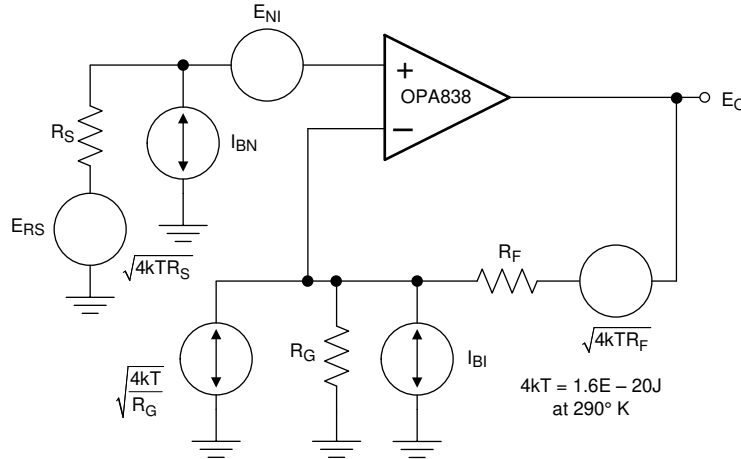
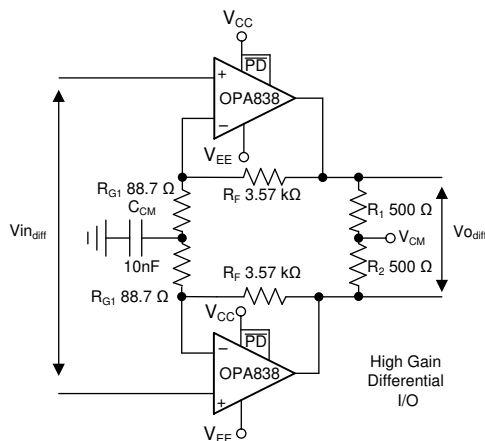
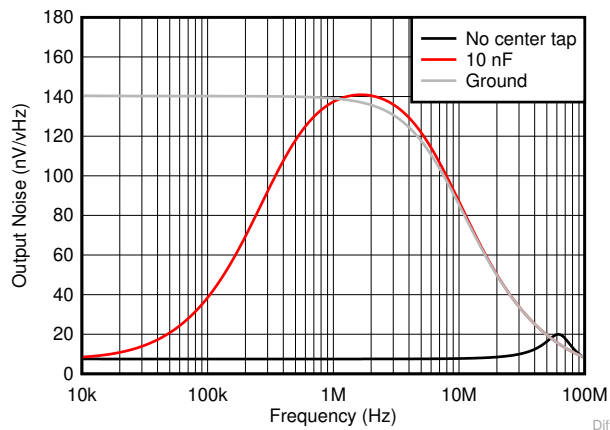

Figure 8-3. Op-Amp Noise-Analysis Model
Figure 8-4. High-Gain Differential I/O Stage
Figure 8-5. Common-Mode Output Noise for Differential I/O Design
The decompensated voltage feedback of the OPA838 op amp offers among the lowest input voltage and current noise terms for any device with a supply current less than 1 mA. Figure 8-3 shows the op amp noise analysis model that includes all noise terms. In this model, all the noise terms are shown as noise voltage or current density terms in nV/√Hz or pA/√Hz.
The total output spot noise voltage is computed as the square root of the squared contributing terms to the output noise voltage. This computation is adding all the contributing noise powers at the output by superposition, then taking the square root to return to a spot noise voltage. Equation 3 shows the general form for this output noise voltage using the terms presented in Figure 8-3.
A high-gain differential-to-differential I/O circuit can be used to drive a second-stage FDA or a differential-to-single-ended stage. This circuit is frequently used in applications where high input impedance is required (for example, if the source cannot be loaded). Figure 8-3 illustrates an example design where the differential gain is 41 V/V. An added element between the two R_G resistors increases the noise gain for the common-mode feedback. Make sure to provision for the added element; otherwise, a decompensated VFA (such as the OPA838) often oscillates. With only the R_G elements in the differential I/O design, the common-mode feedback is unity-gain and often causes high-frequency, common-mode oscillations. To resolve this issue, split the R_G
As an example design, start with the circuit in Figure 8-4.
- Assess the DC common-mode biasing on the noninverting inputs. The DC biasing must be in range and have a gain of 1 to the output. This is not illustrated in Figure 8-3.
- If a DC reference is used as the mid- R_G bias, setting the reference equal to the noninverting input bias voltage sets the output common-mode to that voltage. Using a capacitor as illustrated in Figure 8-3 accomplishes the same results.
- Set the total R_G value near the high gain values using Table 8-1. This 178- Ω total must be split for a center tap to increase the common-mode noise gain, as shown by the 88.7- Ω value in Figure 8-4.
- Simulate the common-mode noise with different elements on the R_G center tap as shown in Figure 8-5.
The common-mode loop instability without the R_G center tap is not often apparent in the closed-loop differential simulations. The common-mode loop instability without the R_G center tap can often be detected in a common-mode output-noise simulation as Figure 8-5 shows. Grounding the inputs Figure 8-4 and running an output-noise simulation for the common-mode tap point in Figure 8-3 shows a peaking in the noise at high frequency. This peaking indicates low-phase margin for the common-mode loop. Figure 8-5 shows this peaking in the lowest noise curve, with two options for improving phase margin. The first option used in Figure 8-4 is a capacitor to ground set to increase the common-mode noise gain only at higher frequencies. This increase can be seen by the peaking in the common-mode noise of Figure 8-5. Another alternative is to provide a dc voltage reference on the R_G center tap. This method raises the common-mode noise gain from dc and beyond. Neither of these latter two options show any evidence of low phase-margin peaking. These two options do increase the output common-mode noise significantly at lower frequencies. Typically, an increase in output common-mode noise is more acceptable than low-phase margin because the next stage (FDA, ADC, differential to single stage) rejects common-mode noise.